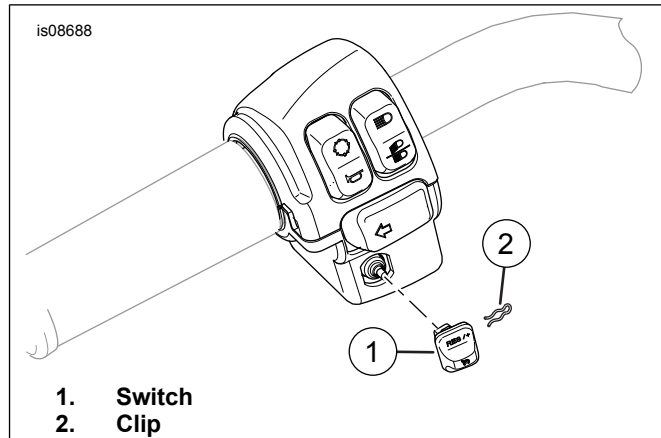

Figure 2. Cruise Switch
3. See Figure 2. For models equipped with cruise control, install cruise control switch (1) and clip (2).